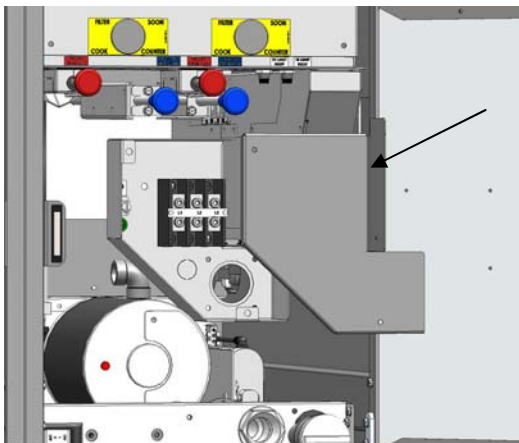

Figure 1.5.1 (Drain line removed for clarity)
1. Remove the fryer entrance box cover, Figure 1.5.1.